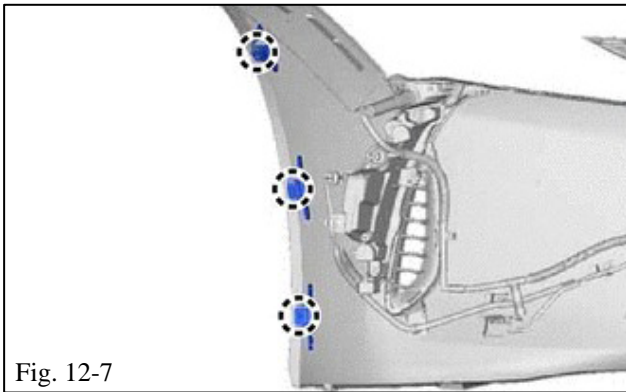

Fig. 12-7
- (j) Engage the fender lining back into the claws (Fig. 12-7).